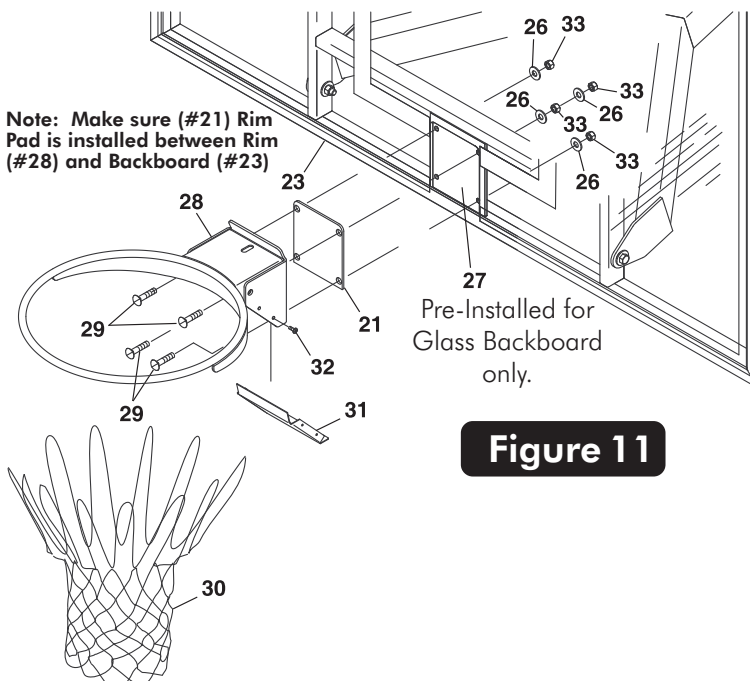

Figure 11
16. Remove protective backboard covering and mount Goal Assembly (#28) and Rim Pad (#21) to Spacer Plate (#27 pre-installed for Glass backboard only), and Backboard, as shown in Figure 11, using four bolts (#29), four washers (#26), and four locknuts (#33). Tighten fasteners finger tight, but leave them loose enough to level rim.
18. Attach Rim Cover Plate (#31) using four screws (#32). See Figure 11.